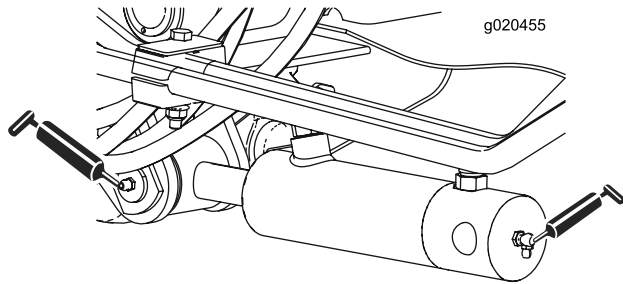

Figure 38
- Lift-arm-cylinder bushings (2 each) (Figure 38)